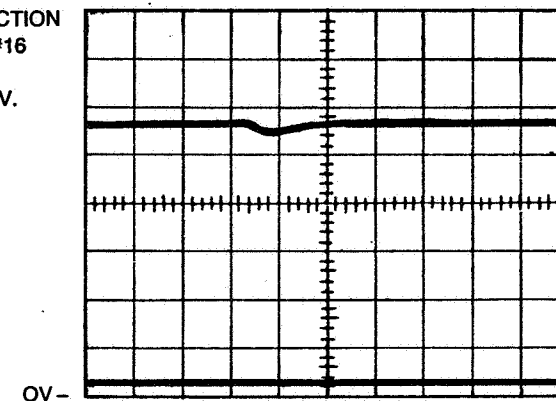

Figure 5-11. Receiver Test Oscillograms
The following procedure is based on the test set-up shown in Figure 5-8. Certain tests are verified with oscilloscope waveform diagrams (oscillograms), which represent the typical waveforms and voltage levels present at various points in the AFO-IIC Receiver circuitry. The oscillograms are shown in Figure 5-11. Figures 5-9 and 5-10 show the physical and schematic locations, respectively, of the receiver test points. The oscillograms represent typical waveforms and voltages generated in the AFO-IIC receiver. Small variations in the actual waveforms and voltages may occur with the particular unit under test. These are acceptable for test results.
5. Connect a high impedance input probe of the oscilloscope to oscilloscope Connection Point 9 shown in Figures 5-9 and 5-10 (TP5 on board 1).	5. Amplitude of signal should be 0.26 V P-P or higher. See Figure 5-11, oscillogram #9, for general shape dc of waveform. If P-P value is incorrect, go to section 5.3.6.
6. Connect a high impedance input probe of the oscilloscope to oscilloscope Connection Point 11 shown in Figures 5-9 and 5-10 (turret lug "E").	6. Amplitude of signal should be $0.29 \pm .03$ V P-P. See Figure 5-11 oscillogram 11 for general shape and dc level of waveform. If P-P value is incorrect, go to section 5.3.6
7. Connect oscilloscope to Connection Point 12 shown in Figures 5-9 and 5-10 (TP4 on board 2).	7. Amplitude of signal should be $4.9 \pm .07$ V P-P. See Figure 5-11, oscillogram #12 for general shape and dc level of waveform. If P-P value is incorrect, go to section 5.3.6
8. Connect oscilloscope to Connection Point 14 shown in Figures 5-9 and 5-10 (TP6 on board 2).	8. Average amplitude of 22 KHz signal should be $0.55 \pm 0.1$ V P-P. DC level should be $-2.0 \pm 0.3$ Vdc. See Figure 5-11, oscillogram #14 for general shape and dc level of waveform. If P-P value is incorrect, go to section 5.3.6.
9. Connect oscilloscope to Connection Point 16 shown in Figures 5-9 and 5-10 (TP7 on board 2).	9. Amplitude of 22 KHz signal should be $10.4 \pm 1.0$ V P-P. See Figure 5-11 oscillogram 16 for general shape and dc level of waveform. If P-P value is incorrect, go to section 5.3.6